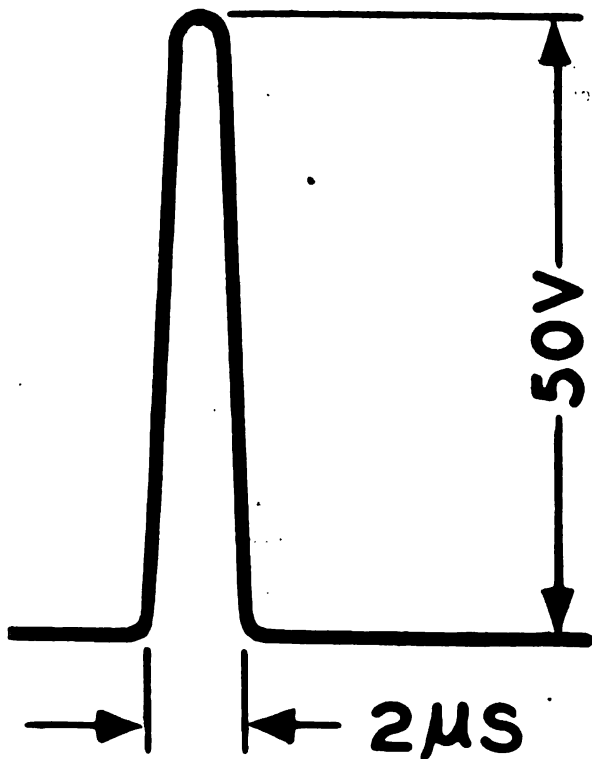

Figure 188. Test oscilloscope pattern.
(1) Connect the low-capacity test cable (which is connected to the vertical plates of the oscilloscope) to the high side of resistor 73-4. The pulse shape shown in figure 188 should appear across this re-